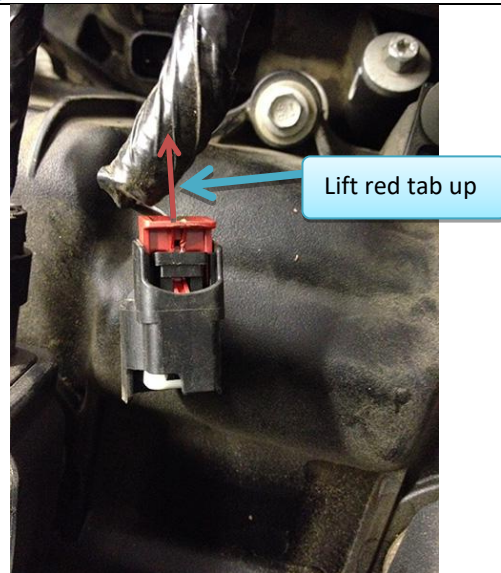

Figure 21: Fuel injector connector with red lock up (unlocked).
13. Disconnect fuel injector wires (Figure 21)